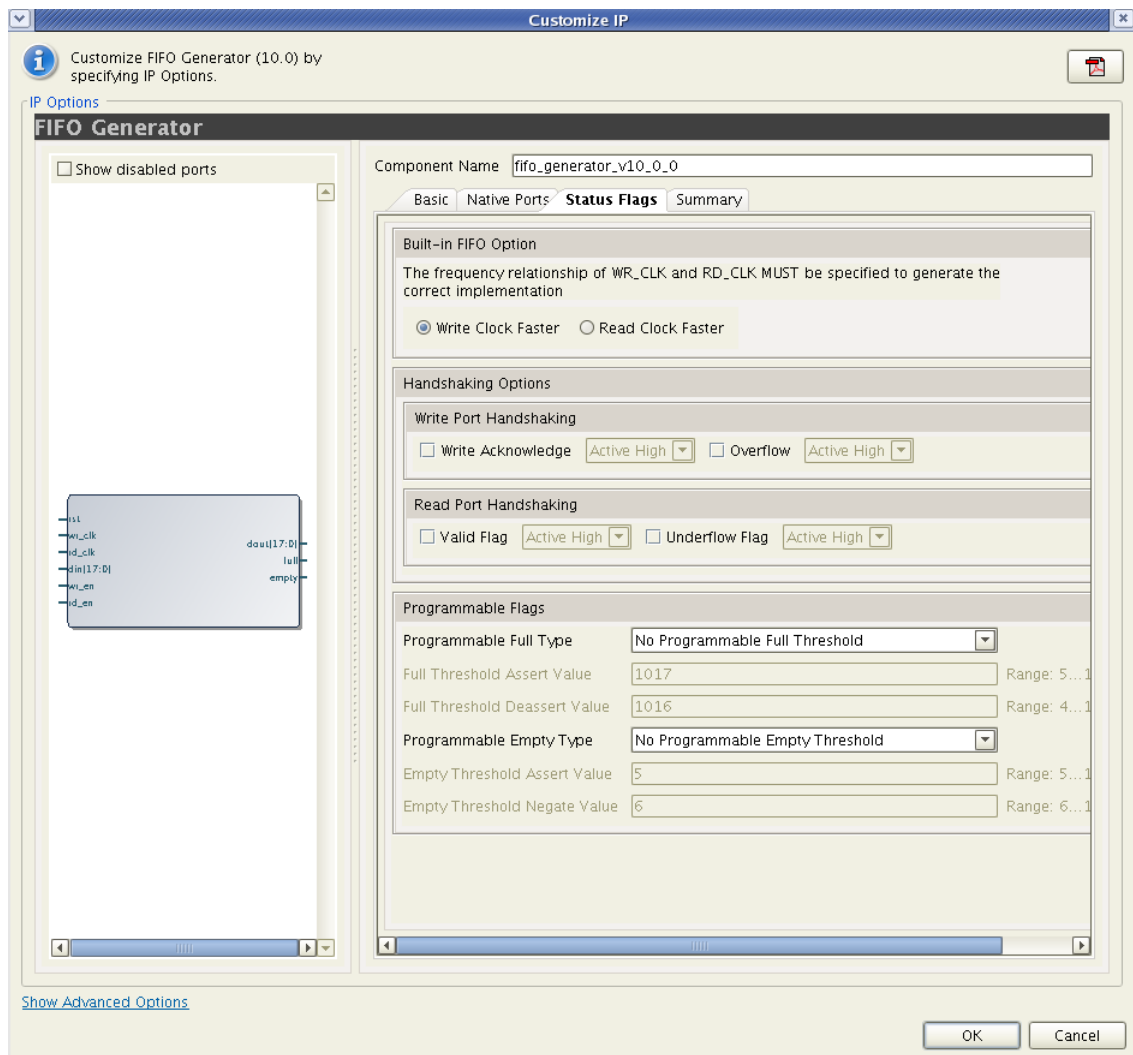

Figure 5-3: Status Flags Screen
- **Common Clock (CLK), Block RAM:** See Common Clock FIFO: Block RAM and Distributed RAM in Chapter 3 for details. This implementation optionally supports first-word-fall-through (selectable in the second GUI screen, Figure 5-3).
- **Common Clock (CLK), Distributed RAM:** For details, see Common Clock FIFO: Block RAM and Distributed RAM in Chapter 3. This implementation optionally supports first-word-fall-through (selectable in the second GUI screen, Figure 5-3).
- **Common Clock (CLK), Built-in FIFO:** For details, see Common Clock: Built-in FIFO in Chapter 3. This implementation optionally supports first-word fall-through (selectable in the second GUI screen, Figure 5-3).
- **Independent Clocks (RD_CLK, WR_CLK), Block RAM:** For details, see Independent Clocks: Block RAM and Distributed RAM in Chapter 3. This implementation optionally supports asymmetric read/write ports and first-word fall-through (selectable in the second GUI screen, Figure 5-3).
- **Independent Clocks (RD_CLK, WR_CLK), Distributed RAM:** For more information, see Independent Clocks: Block RAM and Distributed RAM in Chapter 3. This implementation optionally supports first-word fall-through (selectable in the second GUI screen, Figure 5-3).
- **Independent Clocks (RD_CLK, WR_CLK), Built-in FIFO:** For more information, see Independent Clocks: Built-in FIFO in Chapter 3. This implementation optionally supports first-word fall-through (selectable in the second GUI screen, Figure 5-3).